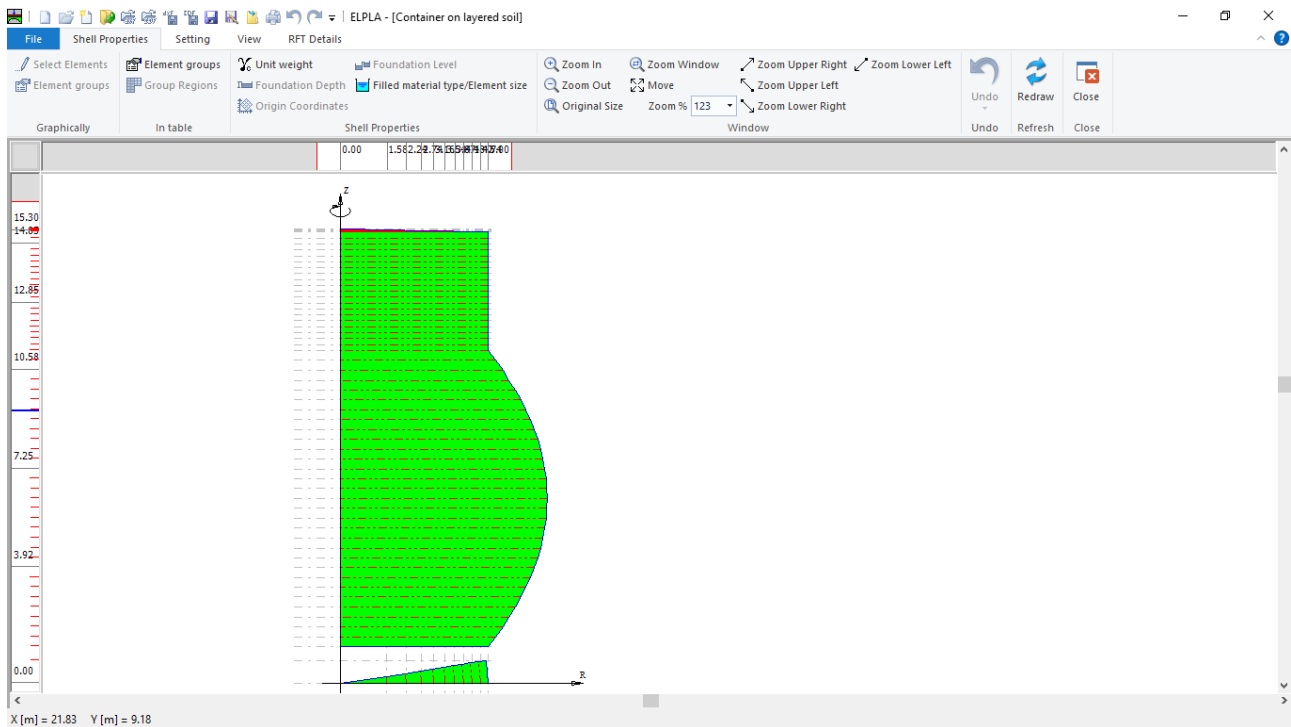
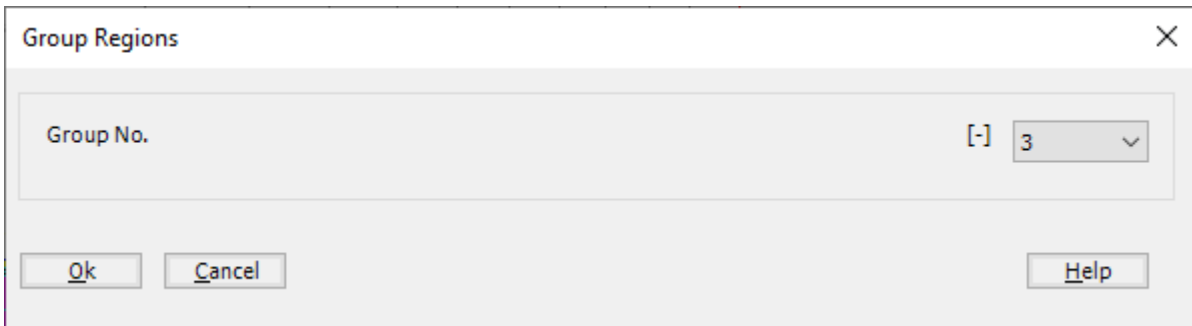
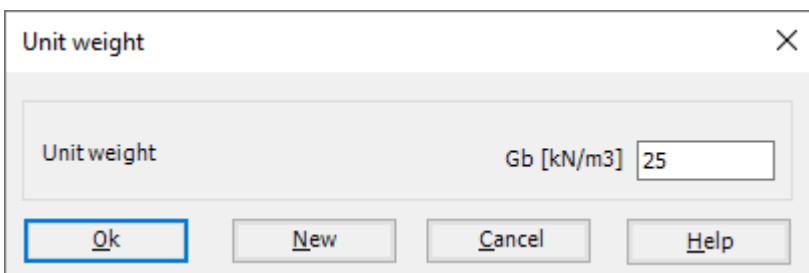

Figure 12.17 "Shell Properties" Window
Figure 12.20 "Group Regions" dialog box
Figure 12.21 "Unit weight" dialog box
To define the container properties, choose "Shell Properties" command from "Data" Tab. The following window in Figure 12.17 appears with default shell properties. The data of shell properties for the current example, which is required to be defined, are element groups, group regions, the unit weight of the container, and the filled material properties. Any other data corresponding to shell properties in the program menus are not required for this example.
- Choose "Select Elements" command from "Graphically" menu in the window of Figure 12.17.
- Choose "Elements Groups" command from "Graphically" menu in the window of Figure 12.17, "Group Regions" dialog box Figure 12.20 appears
To enter the unit weight of the container, choose "Unit weight" command from "Shell Properties" menu in the window of Figure 12.17. The following dialog box in Figure 12.21 with a default unit weight of 25 [kN/m³] appears. Click "OK" button.
To define the filled material properties of the container, choose "Filled material type/Element size" command from "Shell Properties" menu in Figure 12.17. The following form in Figure 12.22 appears.